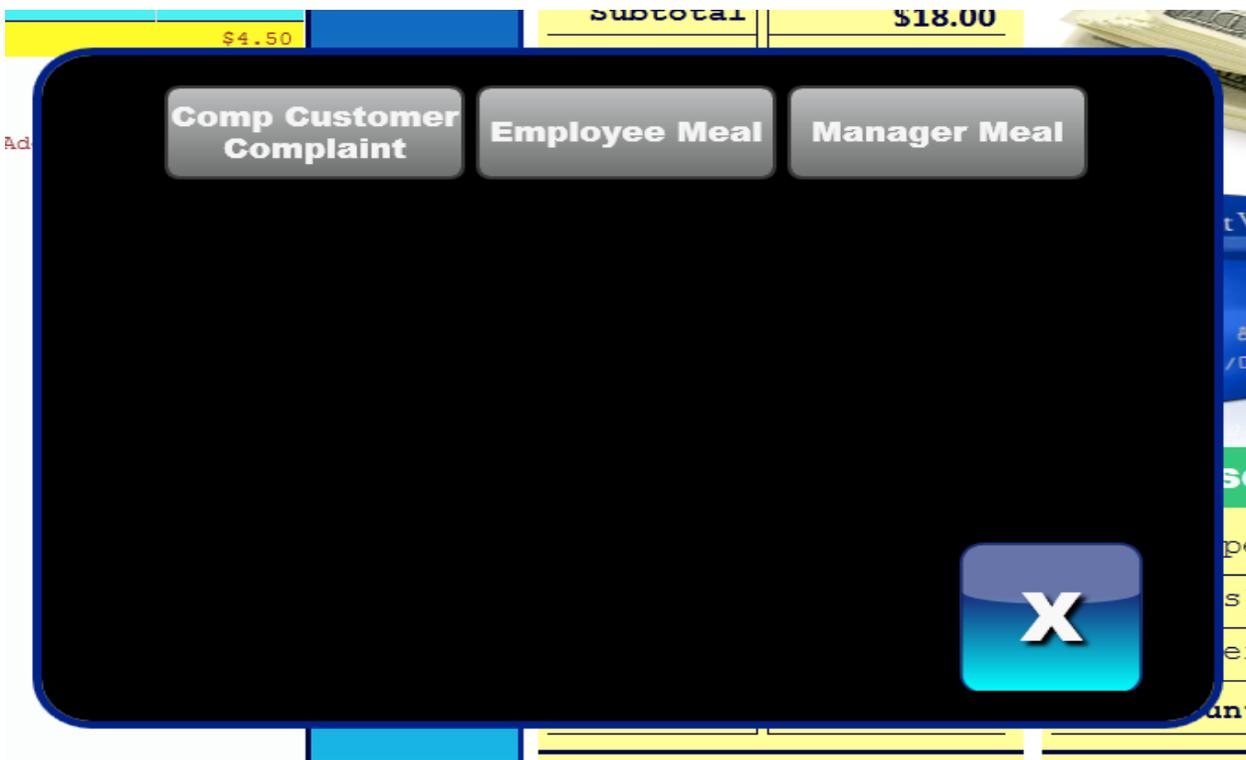
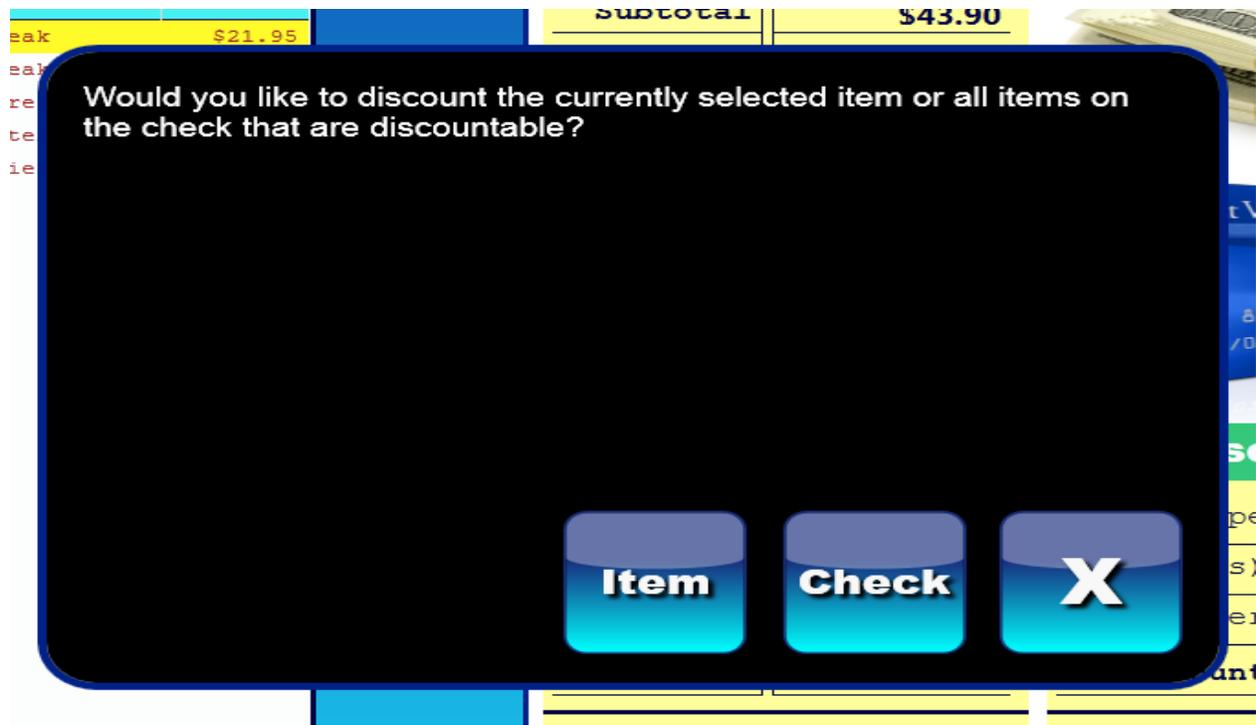

Figure 77
Figure 78
- C. **Discount:** discounts can be applied to the whole check or an item from the check. A dialog box will prompt the user to “select a preconfigured reason from the list below”. Based on the configuration of your discount, the system will apply the discount automatically or prompt you to enter a certain amount. That discount will show under the Discounts. You can scroll through these and delete them as well. *See Figure 77, Figure 78*